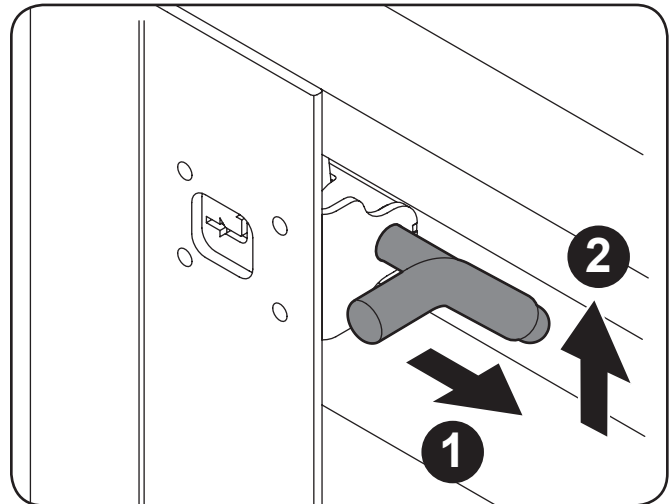

Figure 4-2
3. If equipped with an aluminum cargo box, unlatch the tailgate from the cargo box. See Figure 4-2.
1. Remove latches from the tailgate and sides. See Figure 4-2.
2. Remove latches from the tailgate and sides. See Figure 4-2.